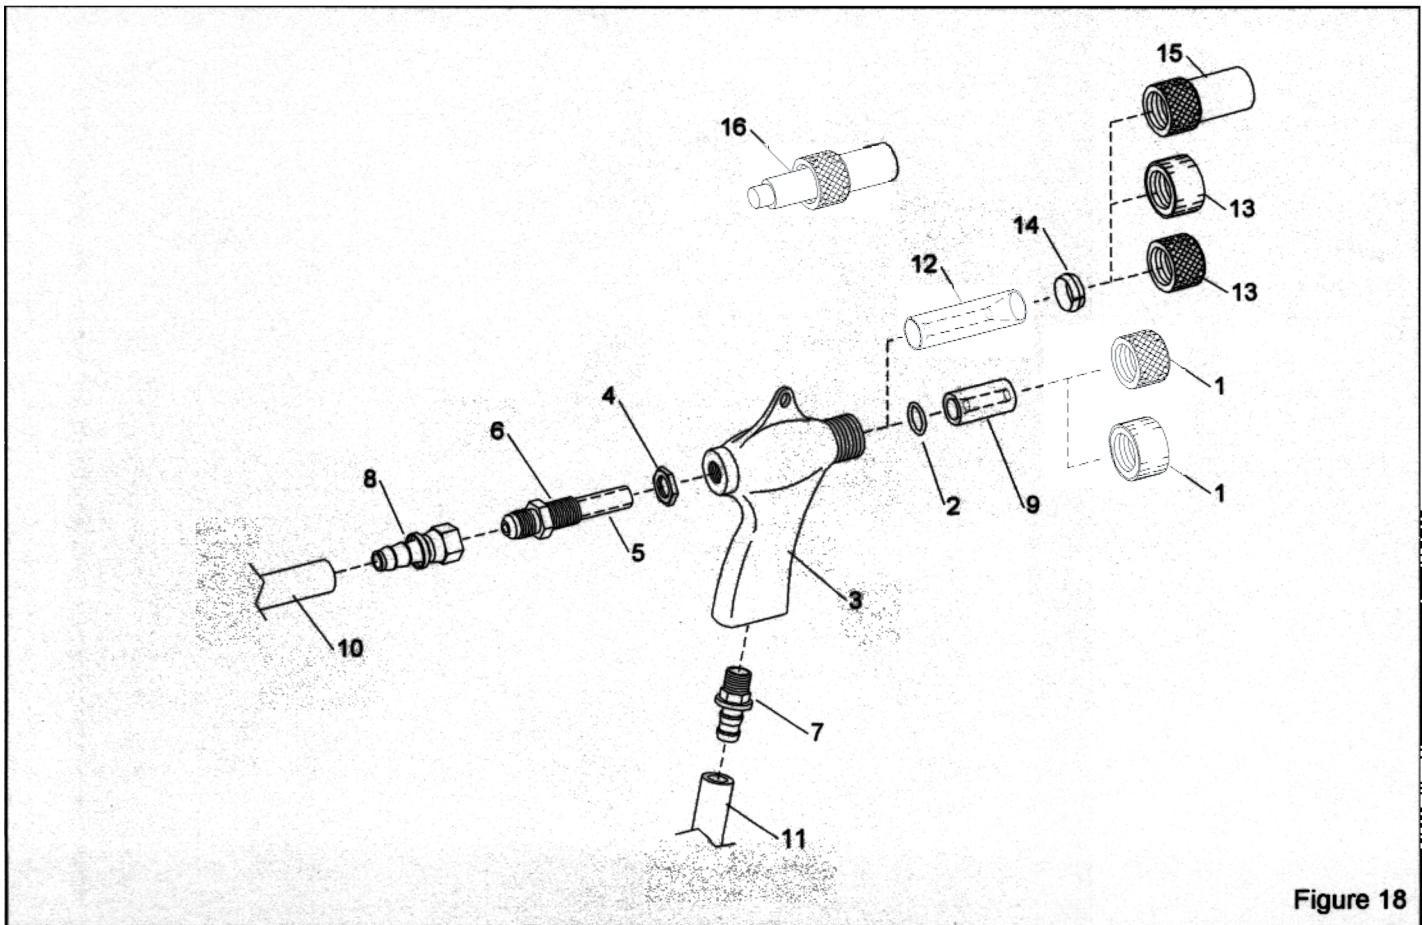

Figure 18
9.5 BNP Gun and Feed Assembly, Figure 18